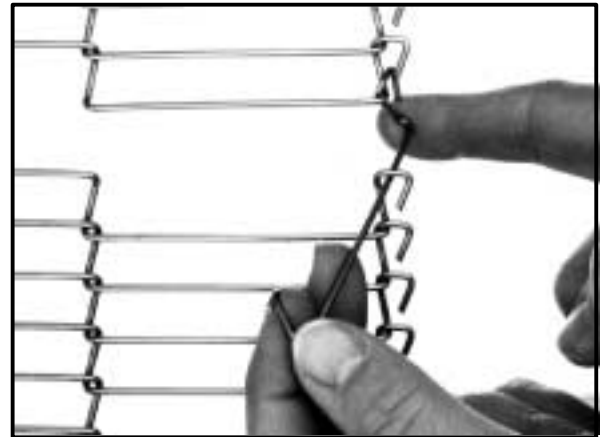
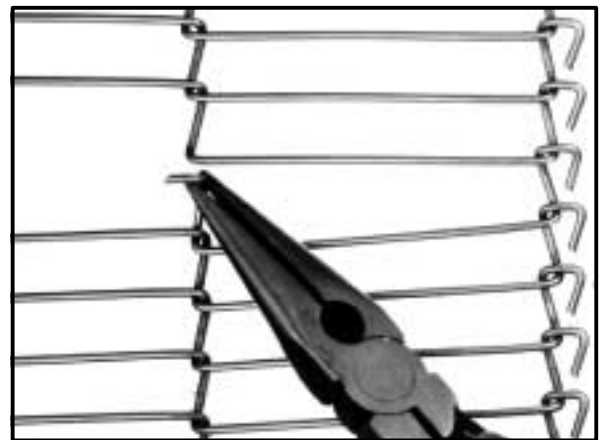

Figure 13
Figure 14
5. Install the outer master links. See Figure 13 and Figure 14